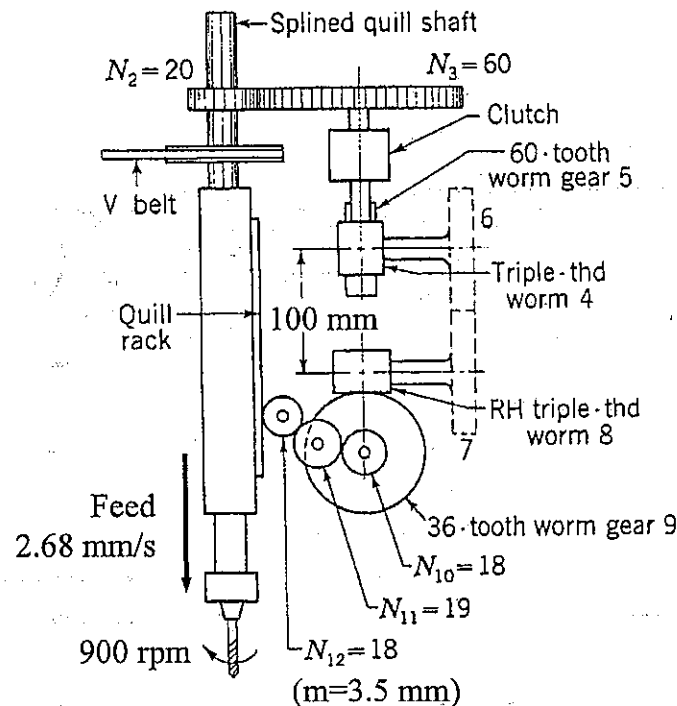

Figure 4
4. Figure 4 shows a V-belt driving a gear train consisting of spur gears and wormgear sets for the power-feed drive of a production drill press. A spring (not shown) returns the quill rack to its uppermost position each time the clutch is disengaged. The numbers of the teeth are chosen for the change gears 6 and 7 to give the feed of the drill required by the given combination of drill size and material being drilled. Note that the module for gears 6 and 7 is 2 mm while that for pinion 12 is 3.5 mm. All spur gears have a pressure angle of 20° .